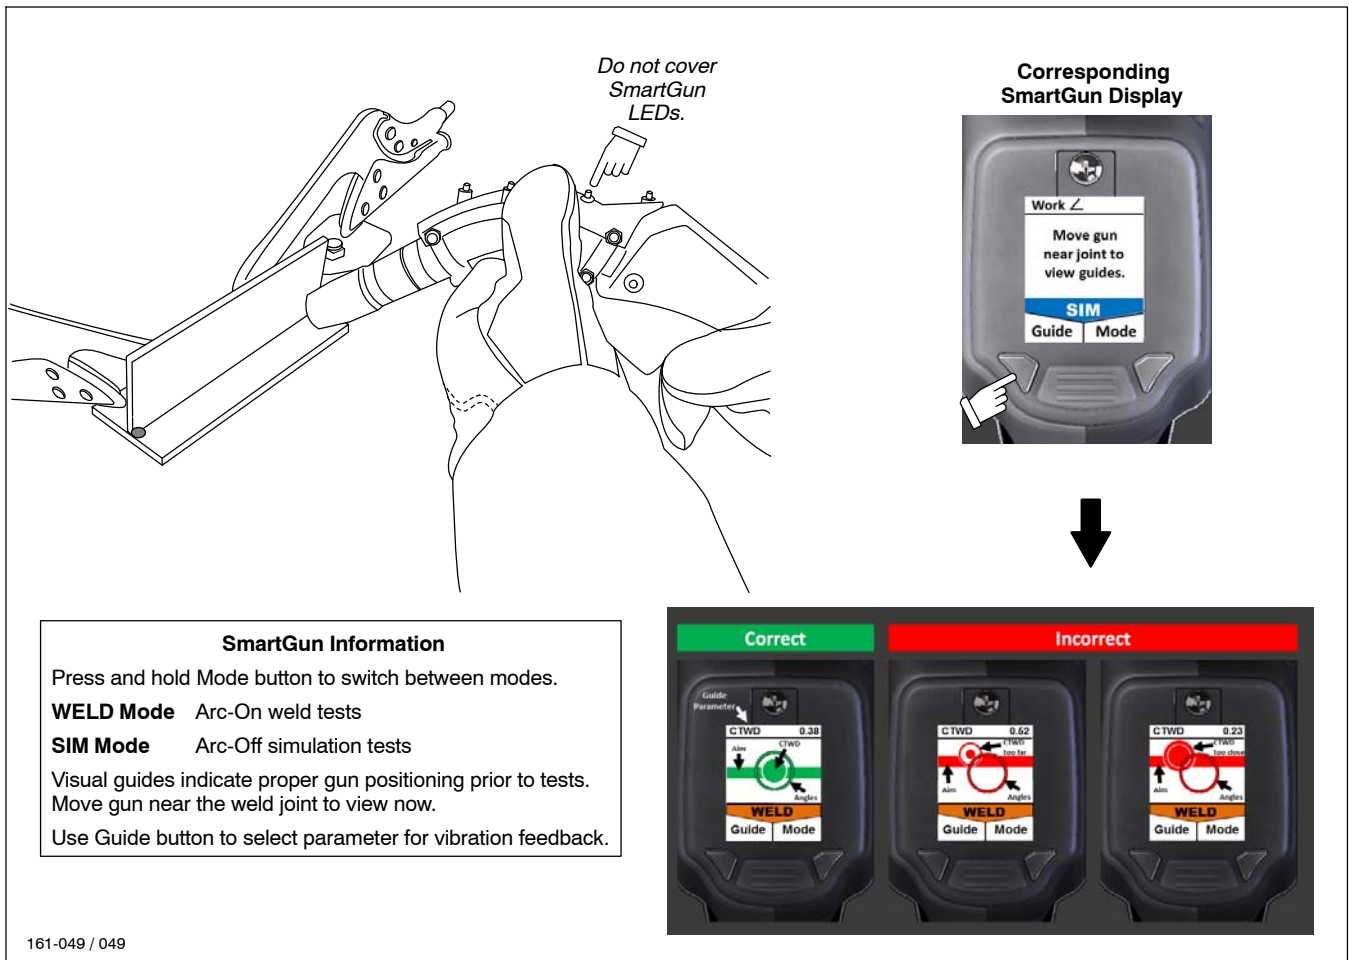

Figure 7-14. Using SmartGun Position Guides
4. Close cover and move gun near weld joint to view real-time, pretest, and gun positioning guides (Figure 7-14).